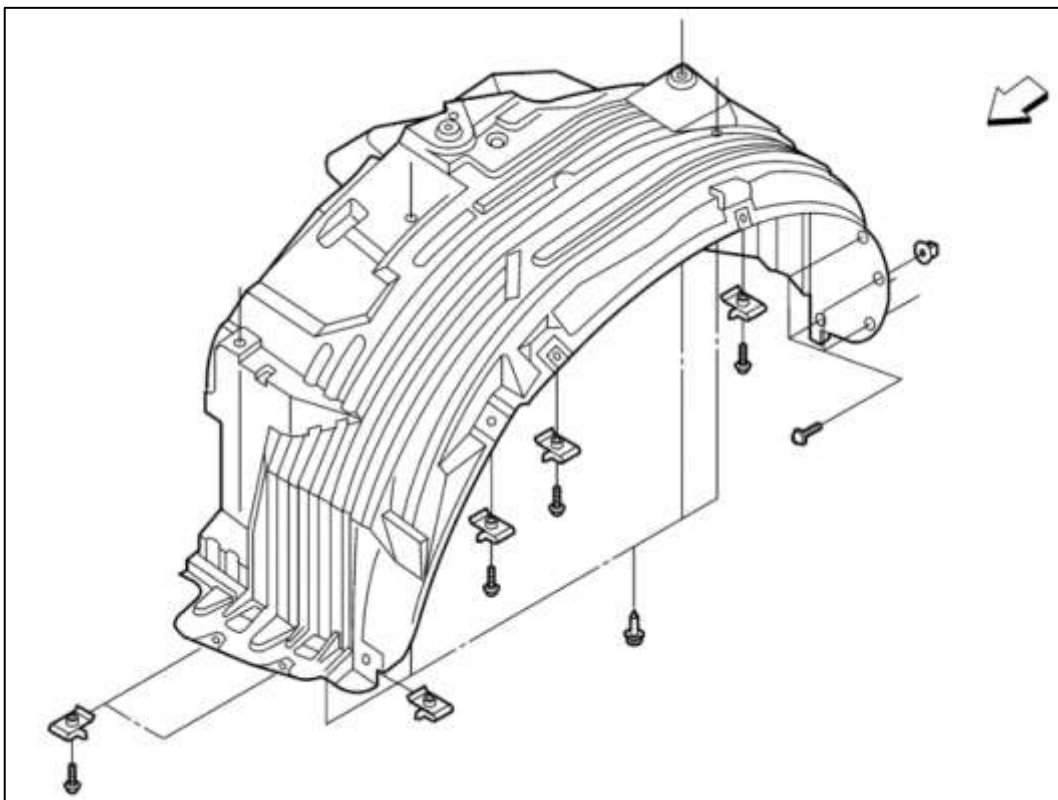

Figure 1
3. Locate proper jacking points on vehicle's chassis (refer to vehicle's Owner Manual). We supported our Xterra on the Frame Rails. Raise and support vehicle using at least (4) four jack stands.
6. Remove the Front Fender Liners. Use *Figure 1* below for reference for fastener locations.